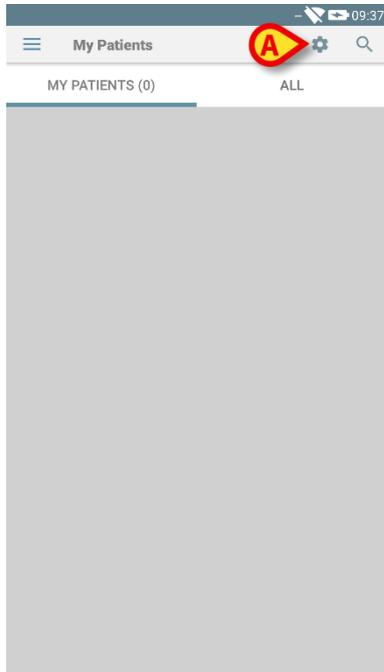

Fig 161
The device switches this way to “My patients” mode. “My patients” list will be displayed (Fig 161). In Fig 161 no patients is selected to be part of “My patients” list. See next paragraph for instructions on how to select “My patients”.
- touch the  icon (Fig 161 A).